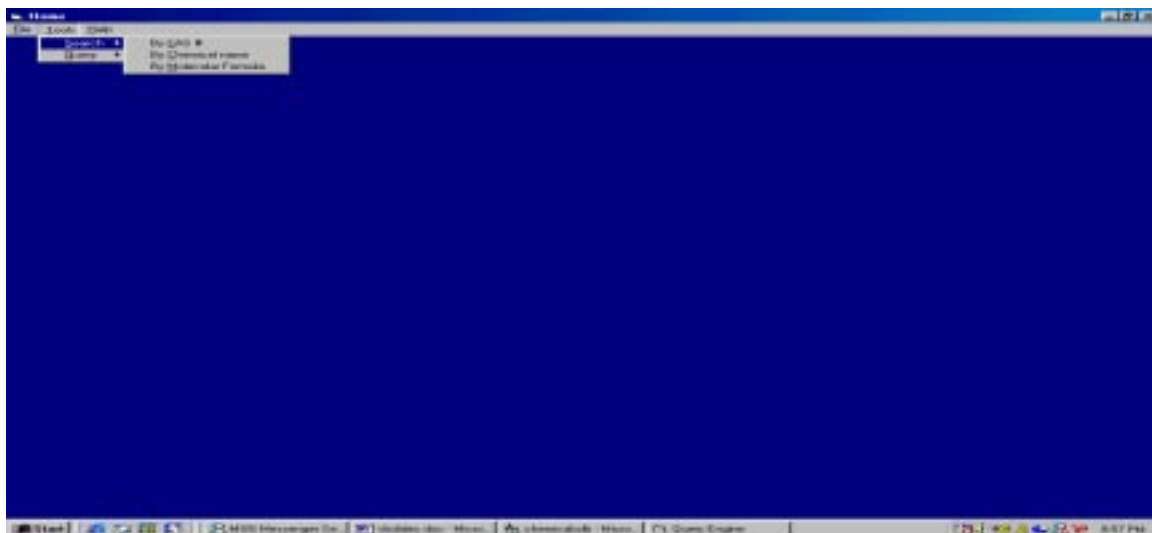

Figure 5.23: Pull down menu for Search
- l) By Molecular Formula as shown in Figure 5.23 below